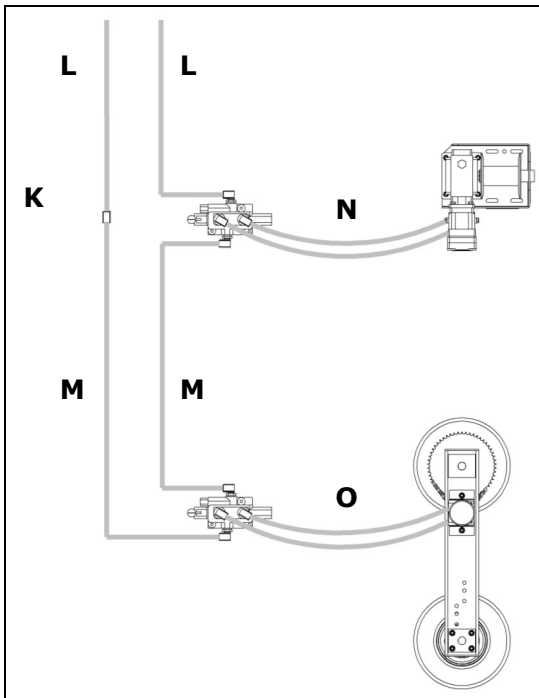

Figure 4
Assemble hoses as shown in Figure 4. In this setup the valves are connected in series. Note connector(K) simply connects hose(L) to hose(M)